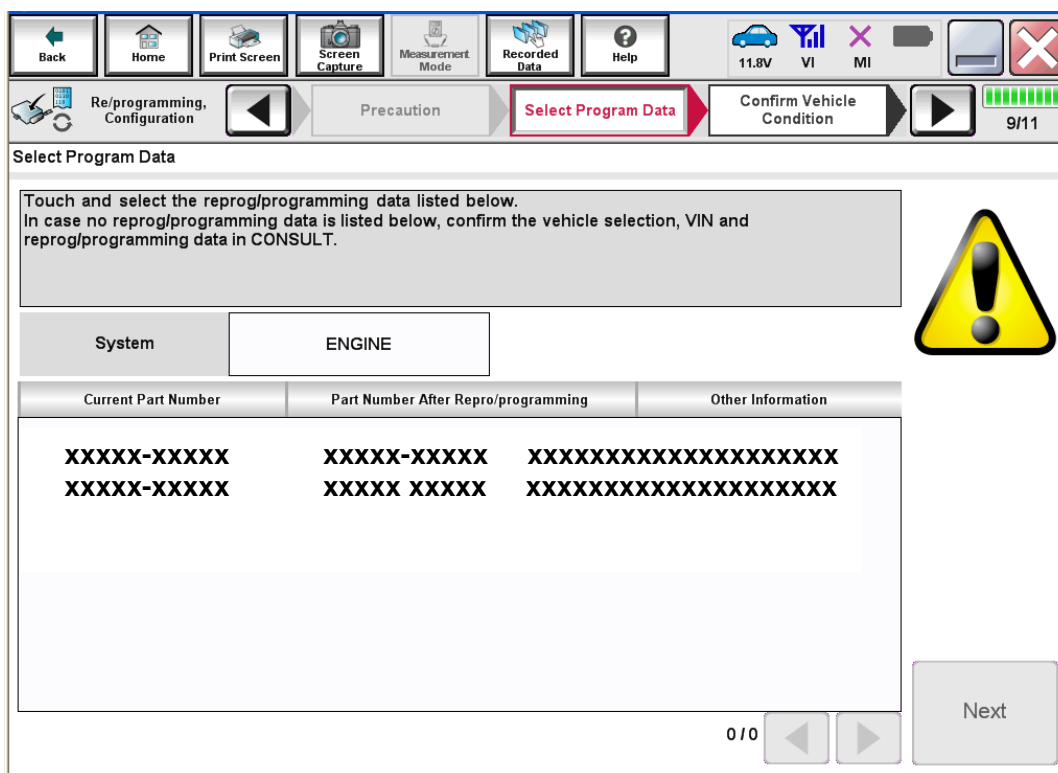

Figure 3D
- If more than one new P/N is available, the screen in Figure 3D displays.